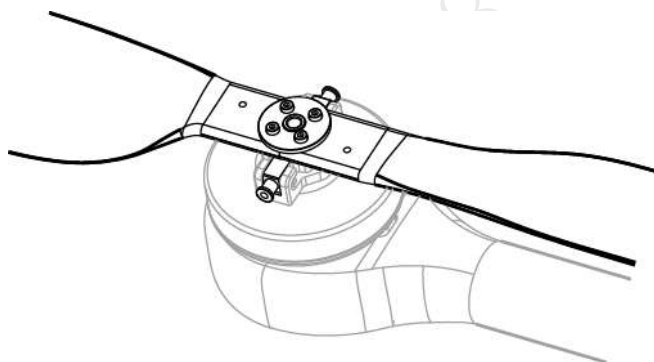

Figure 3-35
Step 2 Buckle the latch on the motor, as shown in Figure 3-35.